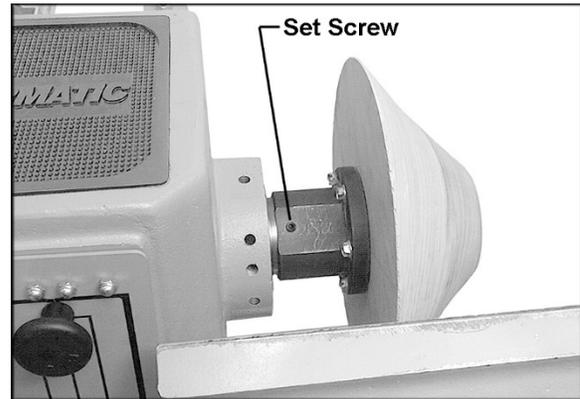

Figure 21
**⚠ WARNING** If at any time you will be reversing spindle rotation, make sure the two set screws in the face plate are tight! One of these is shown in Figure 21. Failure to do this may cause the face plate to loosen from the headstock spindle.
5. To remove the face plate, loosen the two socket set screws (Figure 21). Engage the spindle lock button and turn the face plate counterclockwise with the face plate wrench, as shown in Figure 21.
**(B) Forward/Reverse**
**⚠ WARNING** When turning with a face plate, make sure both set screws on the face plate are tight (see Figure 21) before reversing the spindle. Failure to comply may cause the face plate to spin loose from the spindle.
**(C) Speed Control Dial:** Always start the lathe at the lowest speed, with the dial rotated all the way counterclockwise.